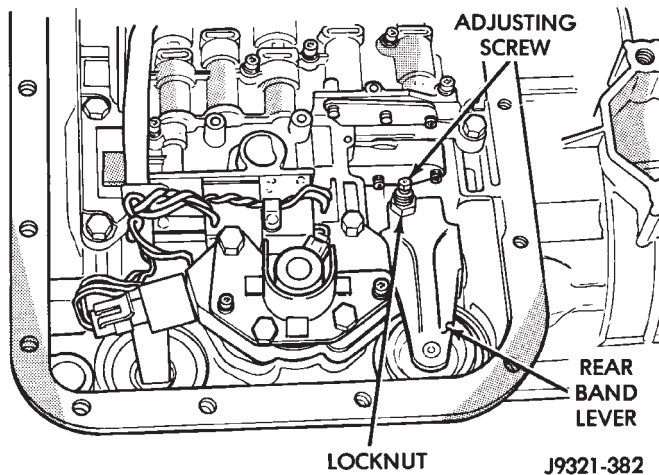
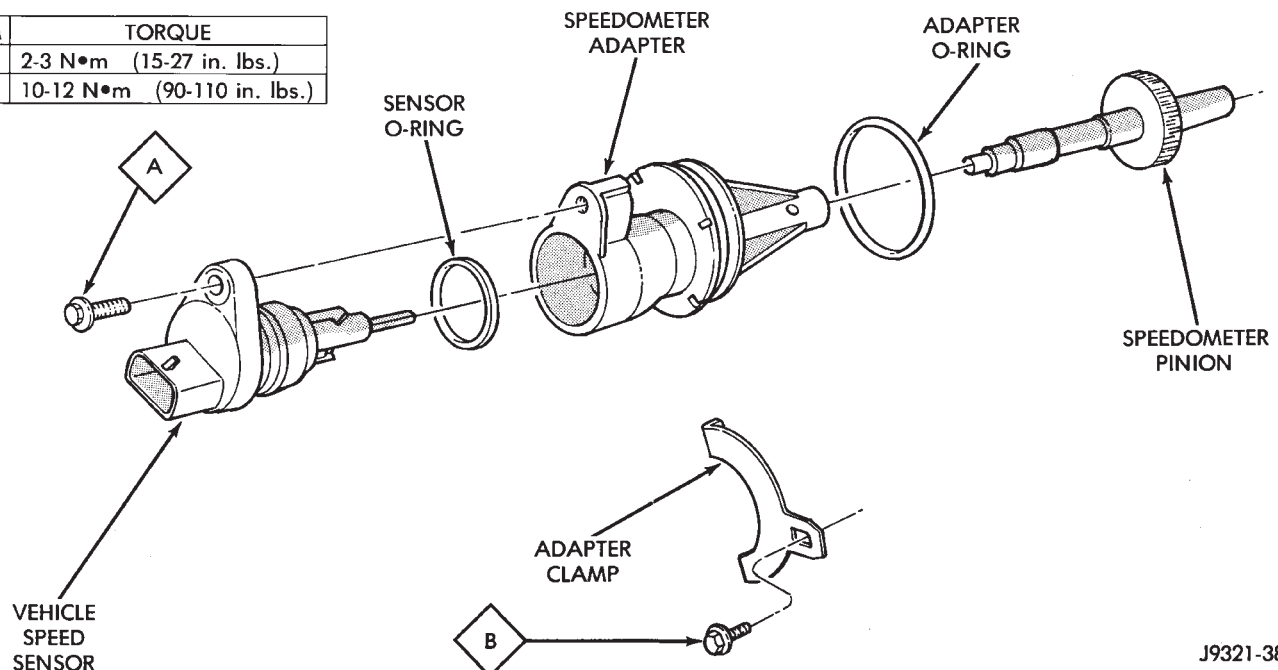

Fig. 9 Rear Band Adjusting Screw Location
Fig. 10 Speedometer Components
(1) Raise vehicle.
(2) Remove transmission oil pan and drain fluid.
(3) Loosen band adjusting screw locknut 5-6 turns. Be sure adjusting screw turns freely in lever. Lubricate screw threads if necessary.
(4) Tighten adjusting screw to 8 N•m (72 in. lbs.) torque (Fig. 9). Use inch-pound Torque Wrench C-3380-A for adjustment.
(5) Back off band adjusting screw 4 turns.
(6) Hold adjusting screw in place and tighten locknut to 34 N•m (25 ft. lbs.) torque.
(7) Clean oil pan, pan magnet and gasket surface of case. Also inspect and replace fluid filter if necessary.
(8) Position new gasket on oil pan and install pan on transmission. Tighten pan bolts to 17 N•m (150 in. lbs.) torque.
(9) Lower vehicle and refill transmission with recommended fluid.
- (1) Raise vehicle.
- (2) Disconnect wires from vehicle speed sensor.
- (3) Remove adapter clamp and screw (Fig. 10).
- (4) Remove speed sensor and speedometer adapter as assembly.
- (5) Remove speed sensor retaining screw and remove sensor from adapter.
- (6) Remove speedometer pinion from adapter.
- (7) Inspect sensor and adapter O-rings (Fig. 9). Remove and discard O-rings if worn or damaged.
- (8) Inspect terminal pins in speed sensor. Clean pins with Mopar electrical spray cleaner if dirty or oxidized. Replace sensor if faulty, or pins are loose, severely corroded, or damaged.
- (1) Thoroughly clean adapter flange and adapter mounting surface in housing. Surfaces must be clean for proper adapter alignment and speedometer operation.
- (2) Install new O-rings on speed sensor and speedometer adapter if necessary (Fig. 10).
- (3) Lubricate sensor and adapter O-rings with transmission fluid.
(4) Install vehicle speed sensor in speedometer adapter. Tighten sensor attaching screw to 2-3 N•m (15-27 in. lbs.) torque.
(5) Install speedometer pinion in adapter.
(6) Count number of teeth on speedometer pinion. Do this before installing assembly in housing. Then lubricate pinion teeth with transmission fluid.